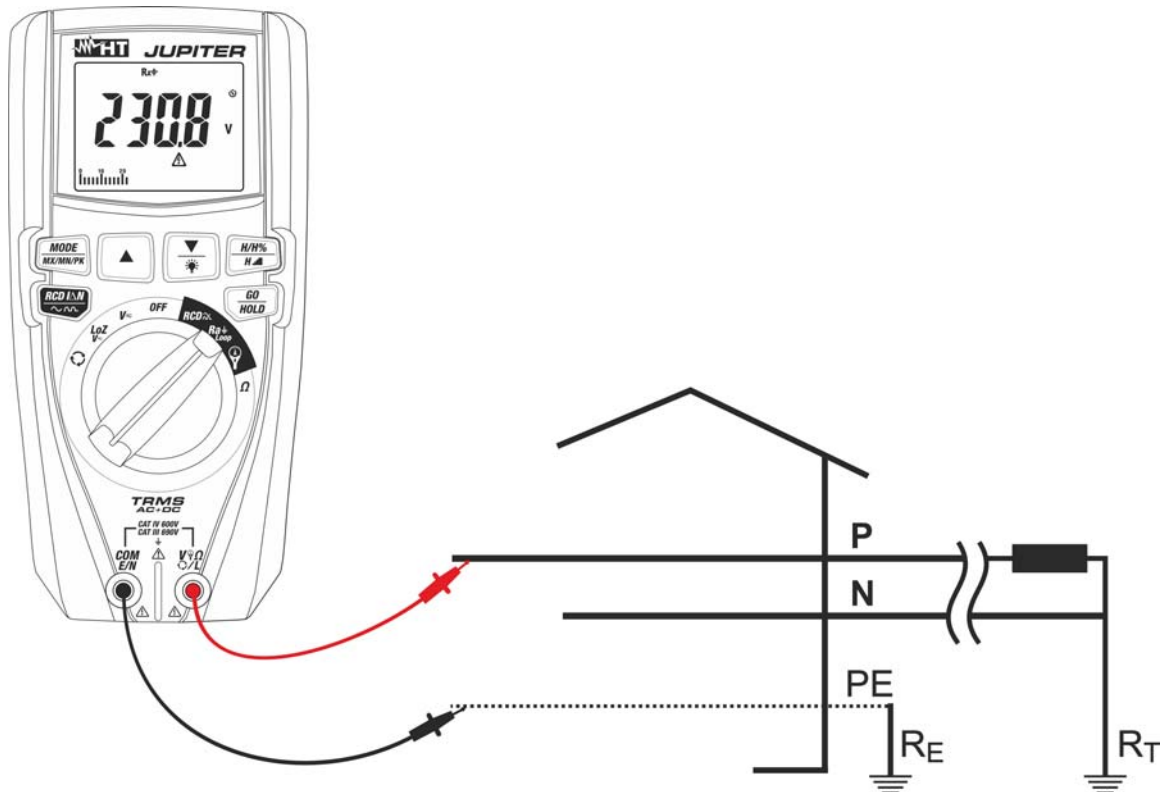

Fig. 24: Use of the instrument for measuring Loop L-PE impedance with leads
6. **For Loop L-PE measurements**, in case measuring leads are used, insert the red conductor into input terminal $V_{\Omega} \text{ L}$ and the black conductor into input terminal **COM/E/N** and connect the instrument to the system to be tested (see Fig. 24). The value of voltage Phase-Earth is shown on the display